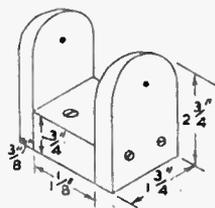
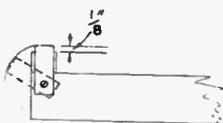

Fig. 3
Fig. 2
FROM plywood or deal board about $\frac{1}{2}$ in. in thickness cut several pieces about 8 ins. by 10 ins. to comprise a total of 1 $\frac{1}{2}$ ins. These pieces should be glued and screwed together, and the bottom face planed flat, if deal board is used. At each end on the top glue and screw 8 in. pieces of $\frac{1}{2}$ in. square ply or wood, as shown. From Meccano, Trix, Juneero or similar strip metal of about 3 in. width, make two 'U' shaped bars, as at (A). Screw these on at the ends of the wood block, allowing about 1 in. between the strips and the $\frac{1}{2}$ in. square pieces of wood, so that the strips can be moved, as seen in Fig. 2. Now form a stirrup from wood (Fig. 3), and screw it securely to the centre of the top of the polisher. An ordinary broom handle is drilled through about 1 in. from the bottom, and fitted to the stirrup with a thin bolt, a nail, or length of heavy gauge wire. This